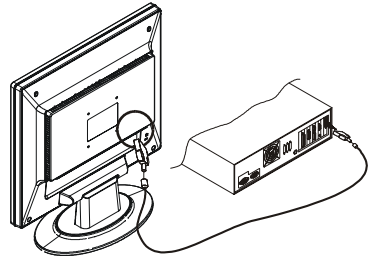

Figure 1-5
2. Connect one end of the signal cable to the LCD Monitor's VGA port. (See Fig 1-5)